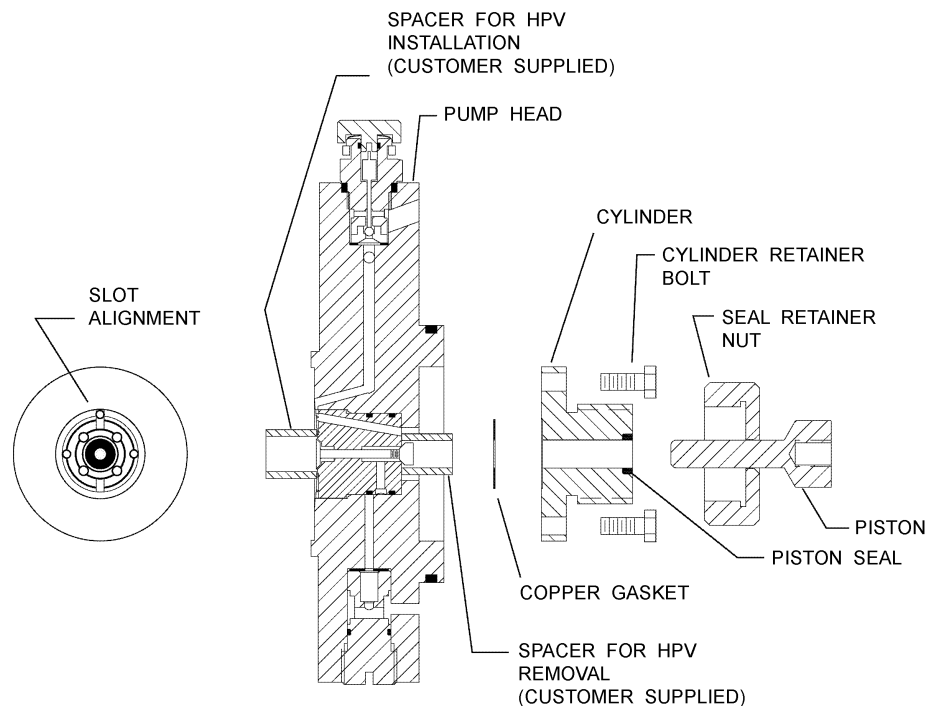

Figure 18
3. Remove the seal retainer nut from the pumphead cylinder (refer to **Figure 18**).
4. Remove the four socket head capscrews that retain the cylinder to the pumphead (refer to **Figure 18**) and remove the cylinder, taking care to not lose the copper gasket.
5. Select a socket or spacer which fits into the cylinder side bore of the pumphead and also clears the rear poppet of the HPV (refer to **Figure 18**).